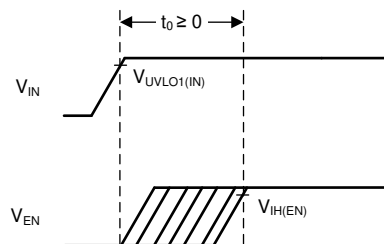

图 8-5. Sequencing Diagram
- VBIAS and VIN can be sequenced in any order, as long as VEN is tied to VIN or established after VIN, as shown in 图 8-5.